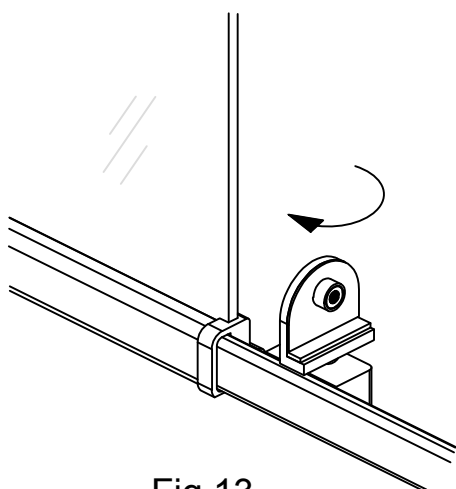

Fig 13
2. Install one **Pivot (B)** into the pivot bases of the **Bottom Rails (A)**. **Note:** The another **Pivot (B)** is installed next step. (Fig 13)